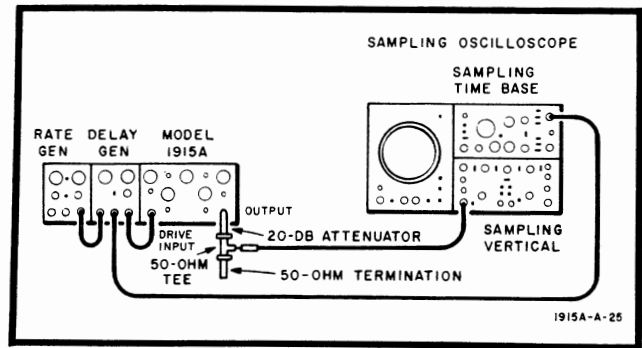

Figure 5-7. Sampling Oscilloscope Test Setup
- a. Connect equipment as shown in Figure 5-7.